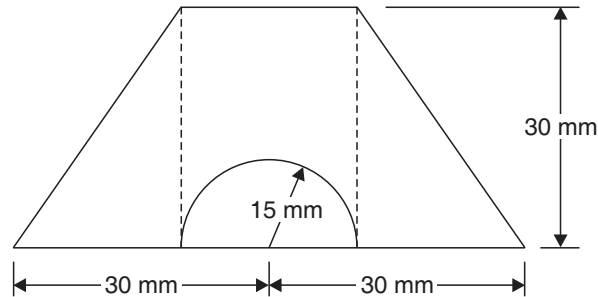

Fig. 5.27
**Example 5.8.** Find the centroidal moment of inertia of the shaded area shown in Fig. 5.27.